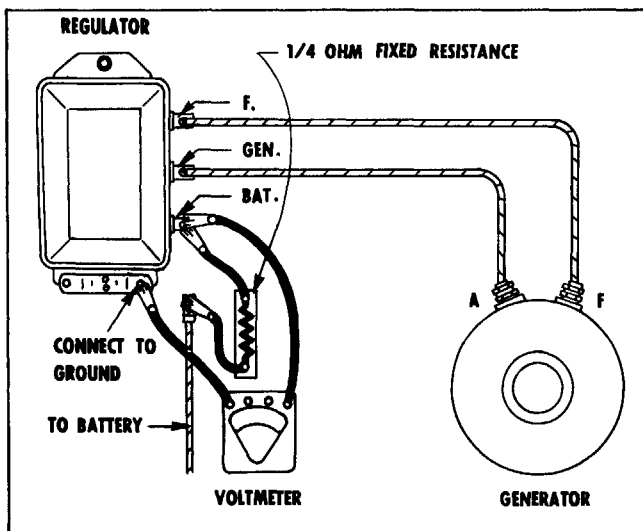

Fig. 12-7 Connections for Testing Voltage Regulator
1. Connect a 1/4-ohm fixed resistor (approximately 25 watts capacity) into the charging circuit at the "BAT" terminal of the regulator and connect a voltmeter from the "BAT" terminal to ground (Fig. 12-7).